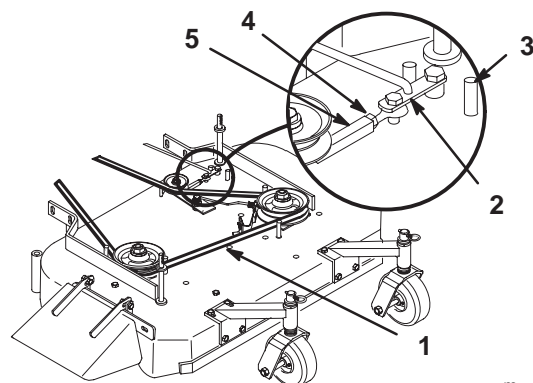

**Figure 47**
7. Engage PTO lever and check the clearance between the bellcrank and the transmission output shaft (Fig. 47). Space should be 1/16"–1/8" (2–3mm).
8. Remove hairpin cotter and clevis pin from bellcrank. Rotate clevis clockwise on rod to increase or counterclockwise to decrease clearance (Fig. 47).
9. Disengage the PTO. If the assist arm does not contact the front stop on the mower deck (Fig. 48), readjust the clevis to bring the bellcrank closer to the transmission output shaft (Fig. 47).